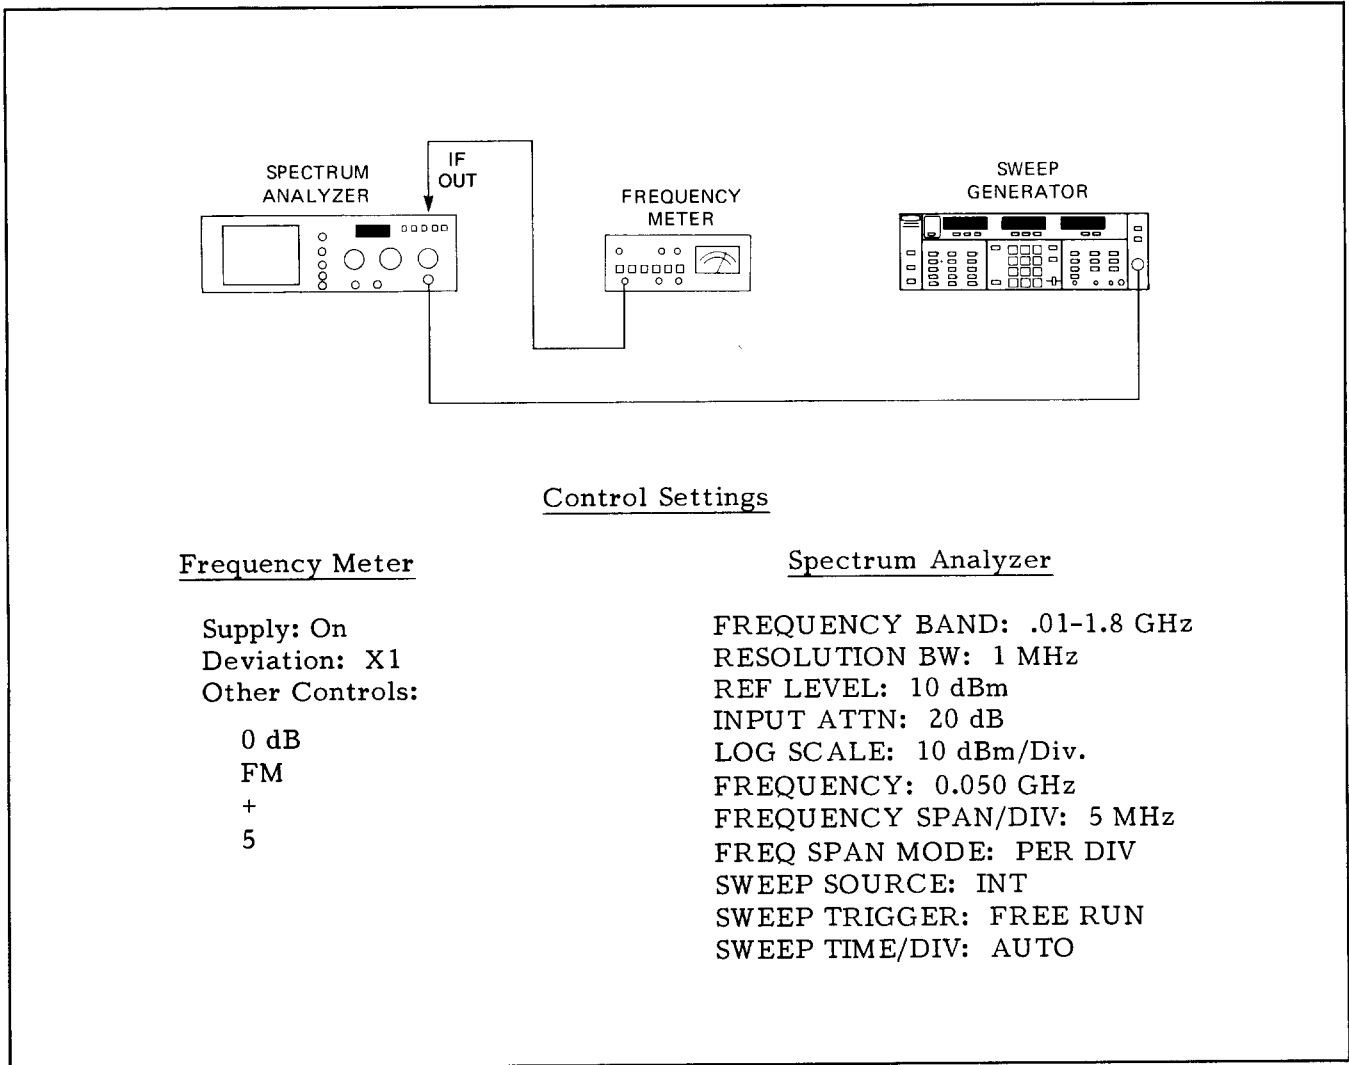

Figure 4-9. Test Equipment Setup for Residual FM Test
- a. Connect test equipment as shown in Figure 4-9, and turn the equipment on.